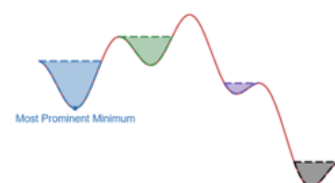

Figure 3: Prominence by depth
- a. **Minima:** Locates the dimmest point between the ring peak and the core peak, measured along each spoke, by prominence (Figure 3).